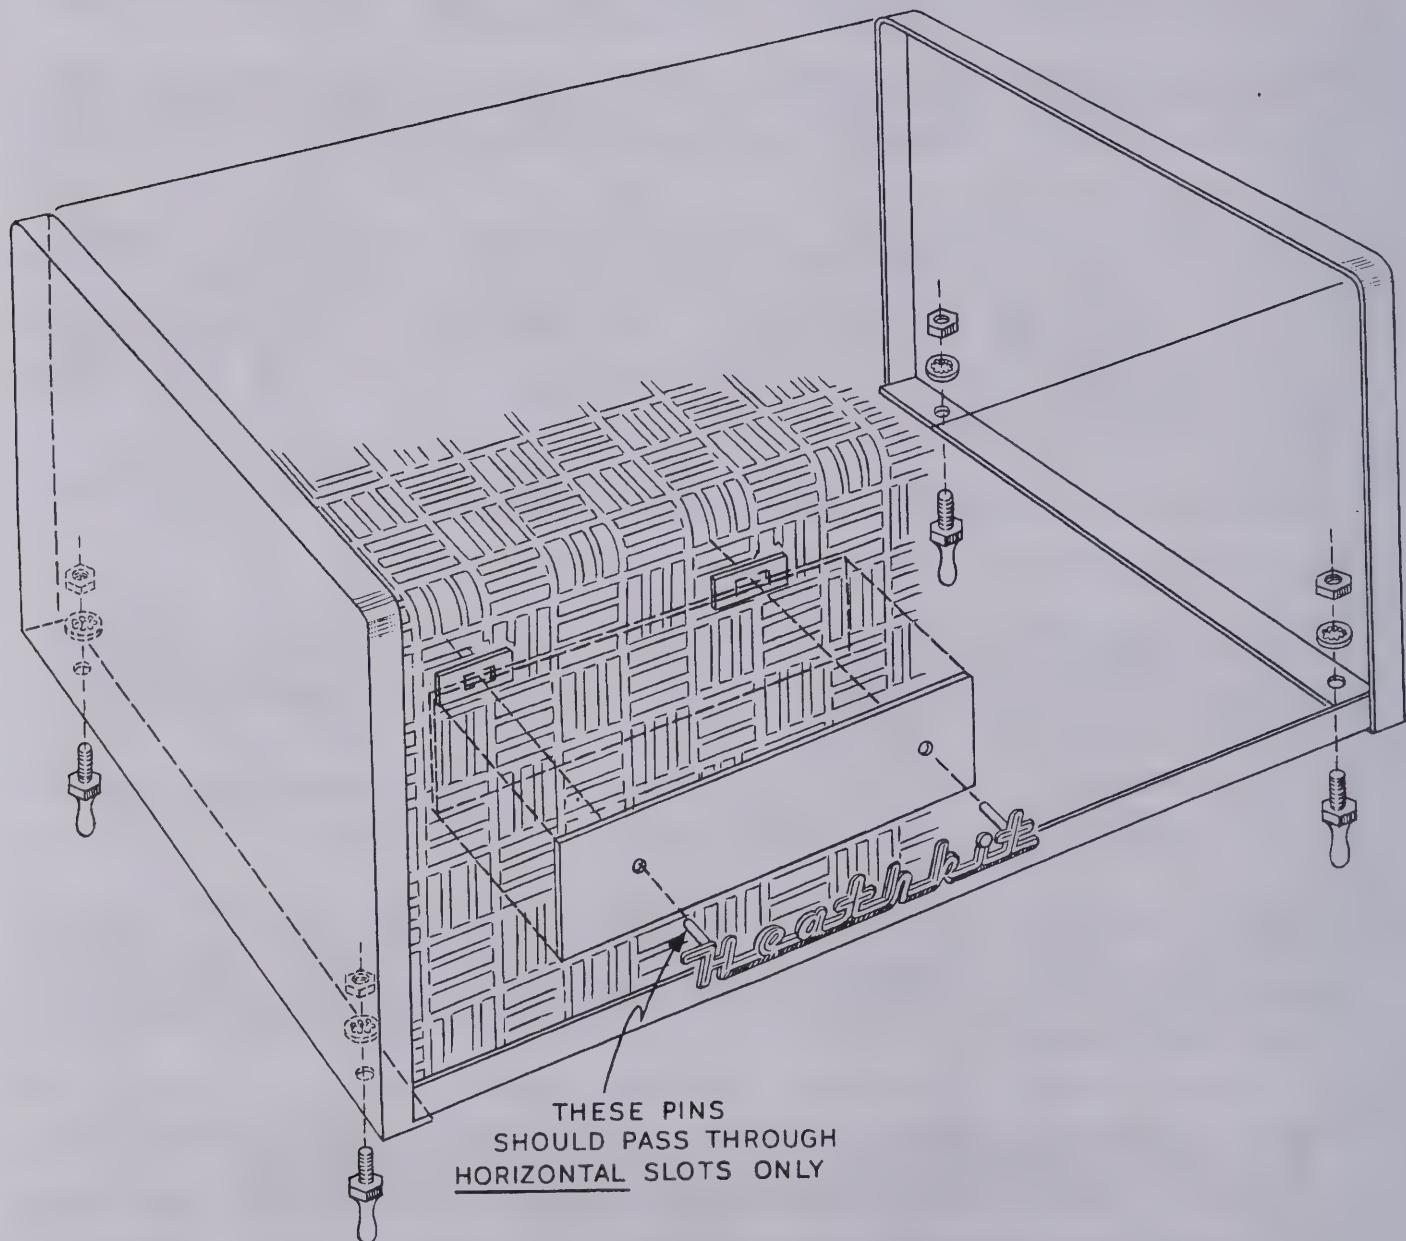

Figure 16
- (~~→~~) Slip a $1\frac{5}{8}$ " length of sleeving over one end of the wire. Form a small hook at the end and insert the hooked end, with the sleeving in place, under the group of resistors between socket V5 and filter condenser G. Connect the hooked end to filter condenser H4 (S). Push the sleeving snugly against H4.
- () Connect one lead to CC1 (S).
- () Connect the adjacent end to CC2 (S).
- Identify the four spring-catch pins, referring to Figure 16. Mount pins at each of the four corners of the cover, using 6-32 lockwashers and nuts.
- Referring to Figure 16, attach the plastic name-plate and escutcheon to the cover screen using the speed nuts provided. A suggested location is given in Figure 16. Any of the horizontal slots in the cover will accept the name-plate pins if some other location is preferred.